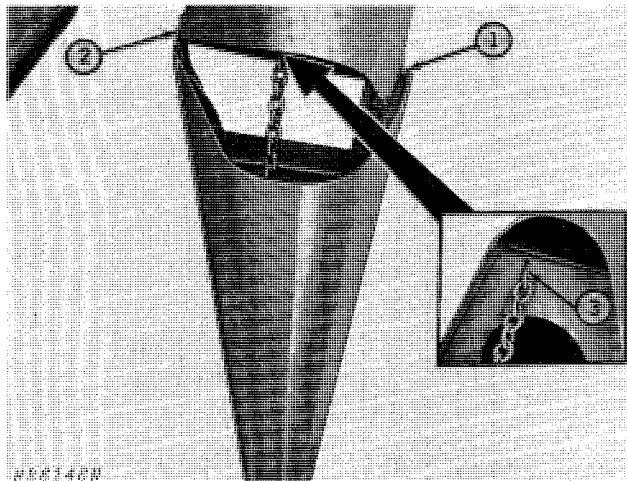

Fig. 91-Installing Outer Gatherer Point
1. Remove pivot assembly and insert bolts in the rear pair of holes on point. Insert pivot assembly in hinge hole on outer gatherer sheet (Fig. 91).
2. Bolt gatherer point to outer gatherer sheet with 716 x 1-1/2-inch round head bolt, spacer, 15/32 x 1-1/8-inch flat washer and nut (Fig. 91).
3. Push pivot pin through support and tighten pivot bolt assembly to point (Fig. 91).